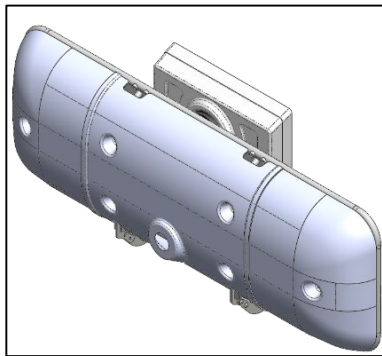
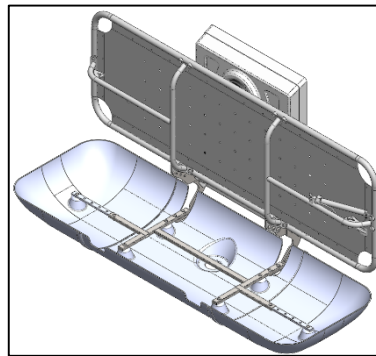
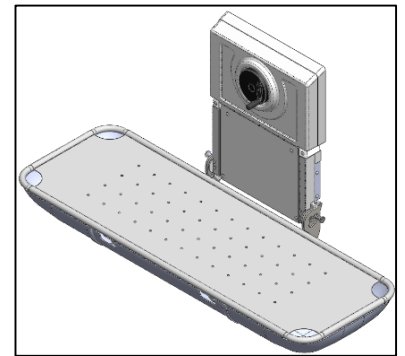
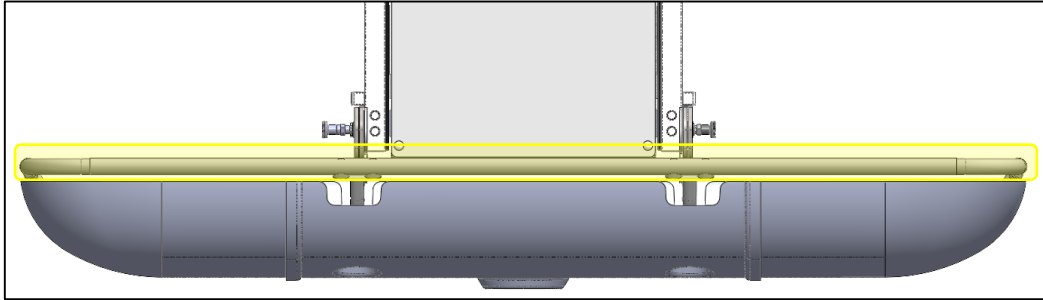

Fig. 10
Fig. 11
Fig. 12
Fig. 15
4.2.6.1 Lowering The Drip Tray (Fig.10 - Fig.11)
4.2.6.2 Lowering The Stretcher (Fig.11-Fig.12)
4.2.6.3 Lowering The Stretcher and Drip Tray Together (Fig.10 – Fig.12)
4.2.6.4 Raising The Shower Stretcher (Fig.12 – Fig 11)
4.2.6.5 Raising The Drip Tray (Fig.11 – Fig.10)
4.2.6.6 Raising The Stretcher and Drip Tray Together (Fig.12 – Fig.10)
- When the drip tray has been assembled and is in the position (shown in Fig.12), there should be an even, horizontal gap between the drip tray and the shower stretcher (as shown in Fig.15).
- Locate the angle adjustment screws on each side of the back frame (highlighted in Fig.15).